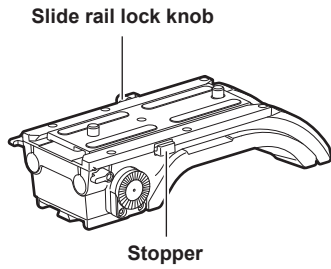

Fig. 1
- 2** Remove the slide rail from the shoulder mount module while pressing the stopper. (Fig. 1)